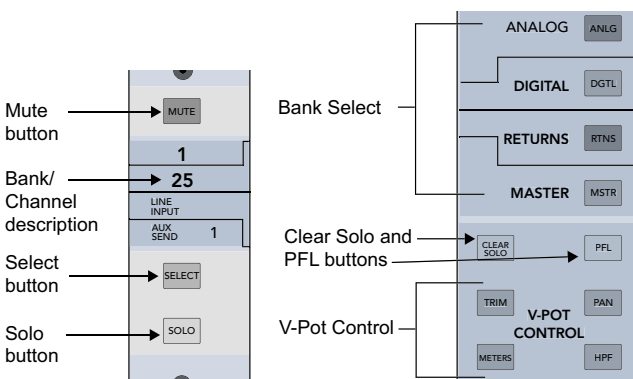

Figure 2-2 Top of channel strip (left); Bank select, Clear Solo, PFL, V-Pot control (right)
2. Press the **ANLG** bank select button (right of Figure 2-2).
5. Activate the **PFL** button (right of Figure 2-2).
17. Press **HPF** in the V-POT CONTROL area (Figure 2-2). This assigns the high-pass filter to the channel V-Pots.